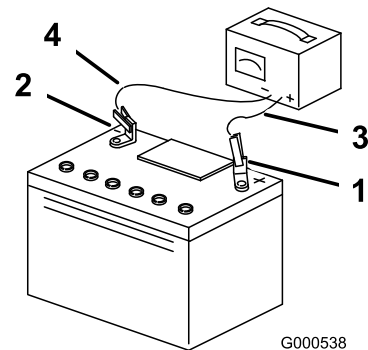

Figure 49
3. When the battery is fully charged, unplug the charger from the electrical outlet, then disconnect the charger leads from the battery posts (Figure 49).